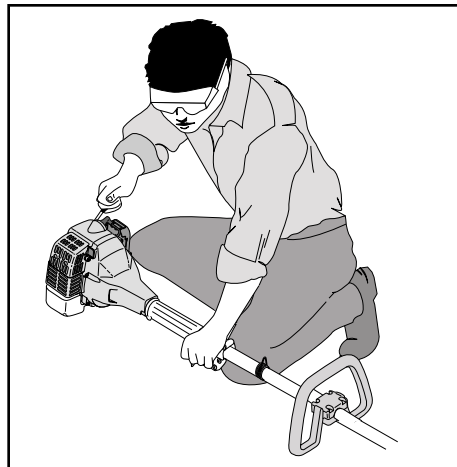

Fig. 7
5. **WITH THE UNIT ON THE GROUND, SQUEEZE THE THROTTLE TRIGGER FULLY AND PULL THE STARTER ROPE BRISKLY** (Fig. 7) until the engine sounds like it wants to run (normally 2 to 5 pulls).
7. **PULL THE STARTER ROPE BRISKLY 1 TO 3 TIMES TO START THE ENGINE** (Fig. 7).